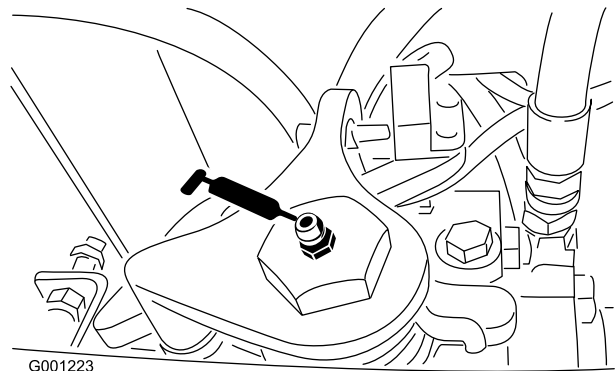

Figure 34
- Transmission neutral shaft (Figure 34)